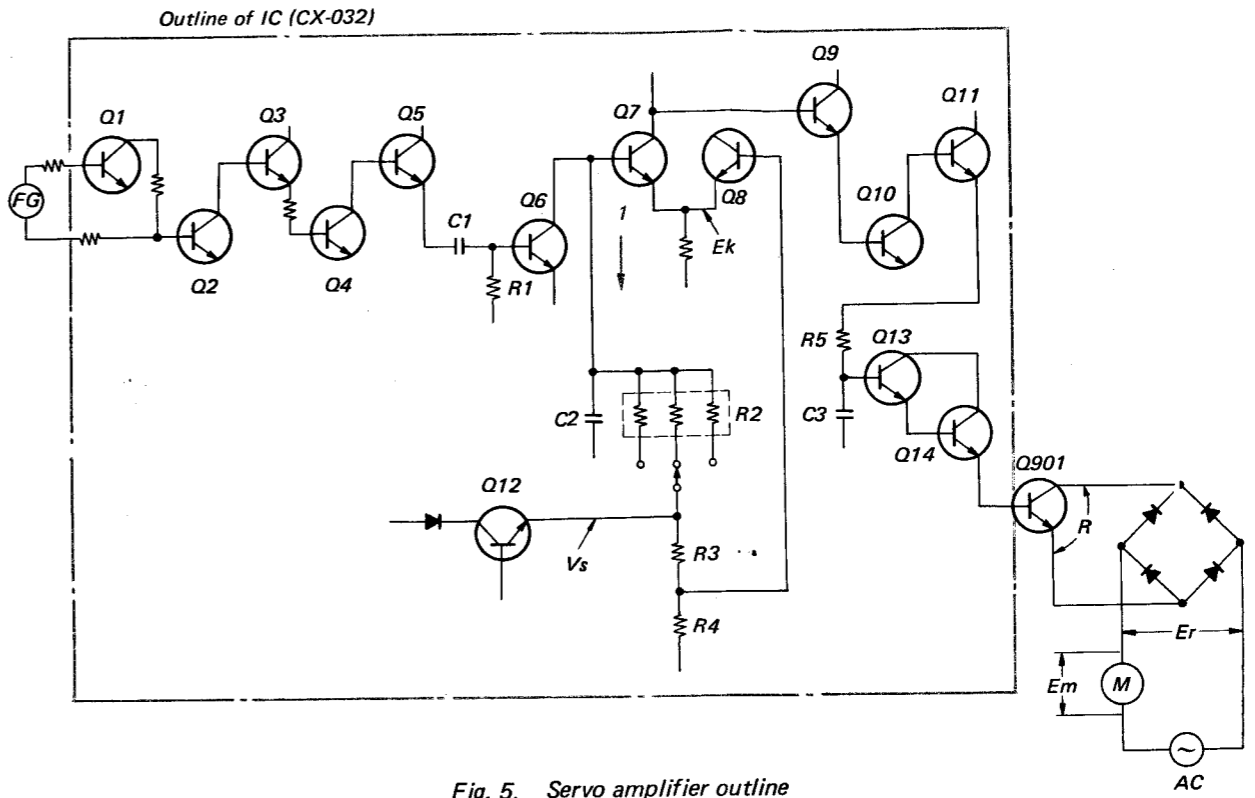
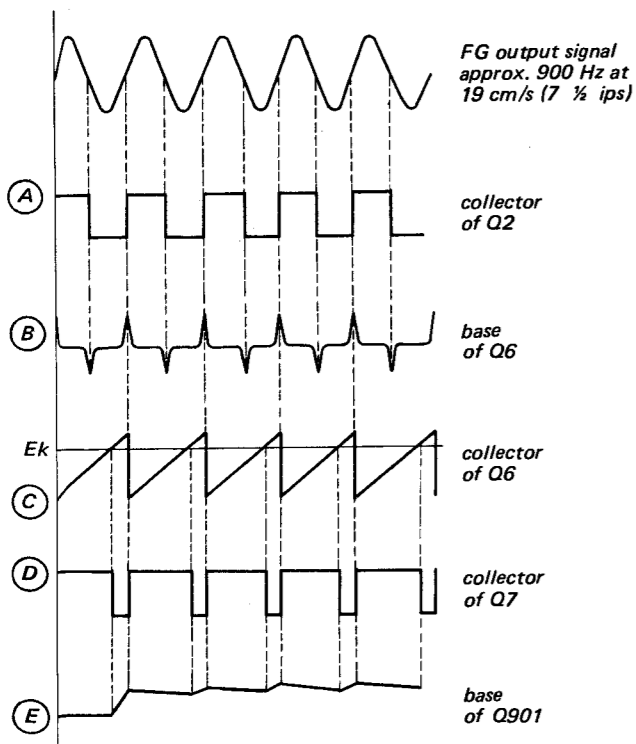

Fig. 5. Servo amplifier outline
Fig. 6. Waveform at each point
Servo amplifier which changes impedance R operates as follows: See Fig. 5 and Fig. 6.
- 1) Sine wave signal generated by frequency generator FG is transferred to bases of $Q1$ and $Q2$. Since base bias voltages of $Q1$ and $Q2$ are set to saturation region, sine wave signal is wavelined to square wave signal shown by (A) in Fig. 6.
- 2) Square wave signal from $Q2$ is amplified by $Q3$, $Q4$ and $Q5$. It is transferred to differentiating circuit comprising $C1$ and $R1$ and is wavelined to pulse shown by (B) in Fig. 6. Then it is transferred to base of $Q6$.
- 4) V_s also charges $C2$ according to the time constant decided by $C2$ and $R2$. The charged voltage is applied to collector of $Q6$. When pulse shown by (B) in Fig. 6 is transferred to base of $Q6$, $Q6$ repeats ON and OFF states. $C2$ discharges while $Q6$ makes current flow as shown by the arrow (1) in Fig. 5. Thus sawtooth wave signal shown by (C) in Fig. 6 is obtained at collector of $Q6$.
- 5) The sawtooth wave signal is supplied to base of $Q7$. Since the emitter voltage E_k is kept constant, $Q7$ turns ON only when the peak value of sawtooth wave signal is greater than E_k . When $Q7$ turns ON, the negative pulse shown by (D) in Fig. 6, appears at collector of $Q7$.
- 6) This pulse is amplified by $Q9$, $Q10$ and $Q11$, and its polarity is inverted. The positive pulse is transferred to the integrator comprising $R5$ and $C3$, and is wavelined as shown by (E) in Fig. 6. After being amplified by $Q13$ and $Q14$, it is transferred to base of $Q901$. And this base voltage changes impedance between collector and emitter of $Q901$ and controls motor speed.